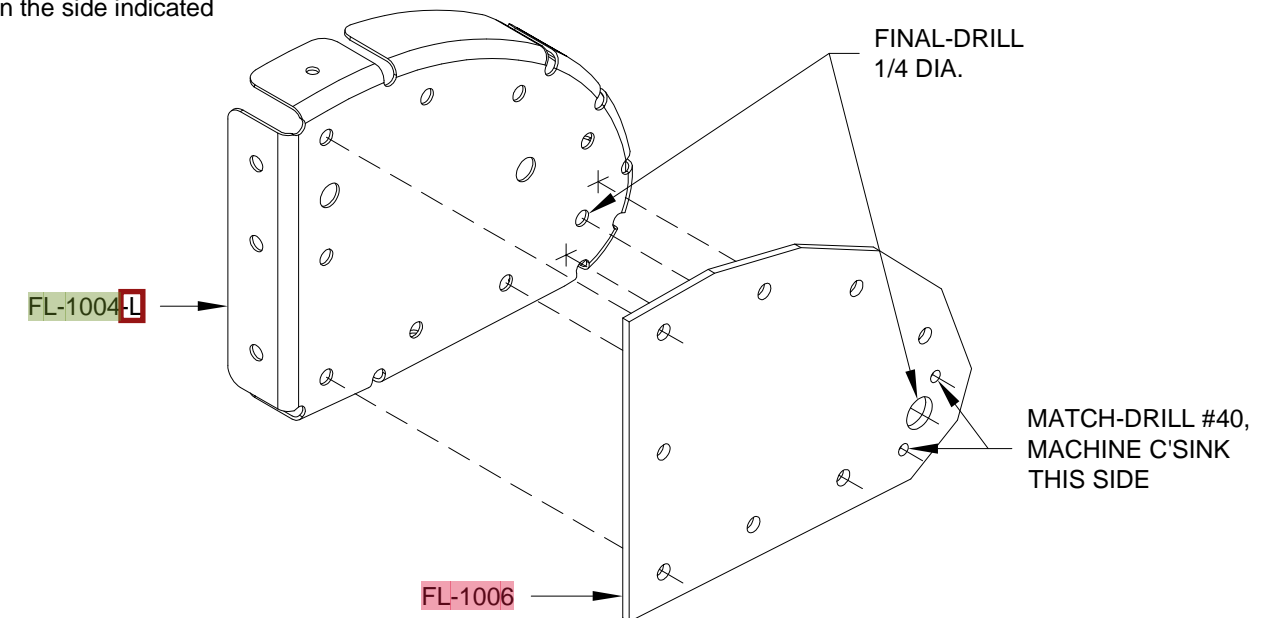

FIGURE 4: OUTBOARD ROD END RIB SUBASSEMBLY
Step 4: Make the outboard rod end rib subassembly by clecoing an **FL-1006** Doubler to an **FL-1004-L** Nose Rib as shown in Figure 4. Final-Drill #30 the 1/8" holes common to the two parts.